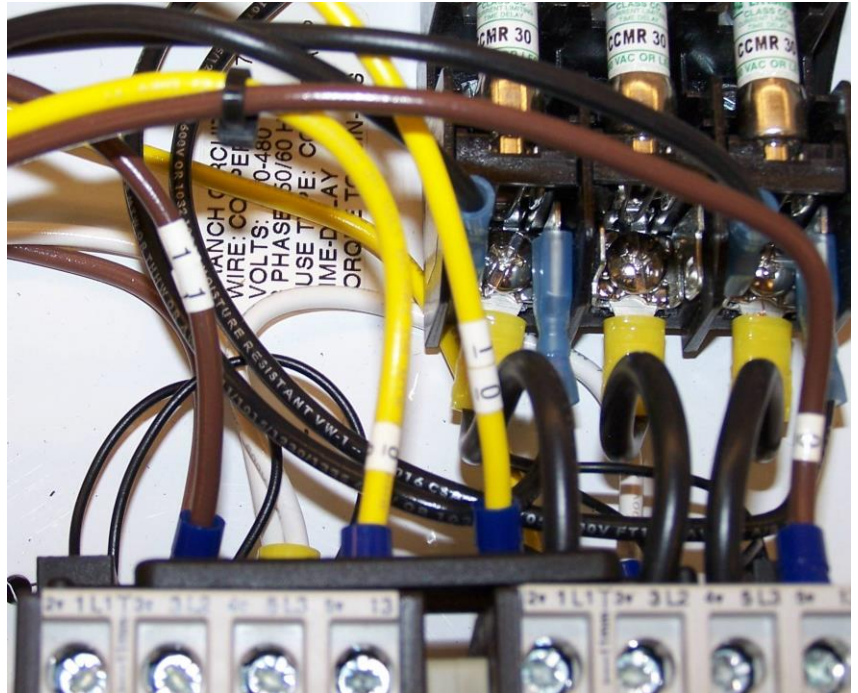

Figure 13
10. The Yellow wire labeled #10 connects to the "FORWARD" contactor coil. Remove the existing yellow wire from the contactor coil and "FORWARD" terminal block #8. Connect the new wire to the "FORWARD" contactor coil (Figure 13).
11. The Brown wire labeled #11 connects to the "REVERSE" contactor coil. Remove the existing brown wire from the contactor coil and "REVERSE" terminal block #9. Connect the new wire to the "REVERSE" contactor coil (Figure 13).